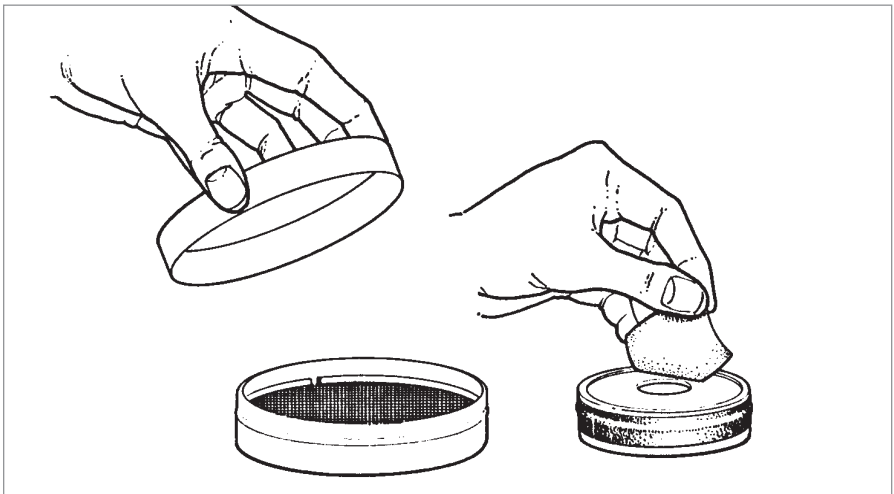

Figure 4: Two types of charcoal detectors
- **Charcoal Detectors** – These devices consist of a container filled with charcoal and covered with a screen and filter (*see figure 4*). They are exposed to the air in your home for a specified time period (usually 2 to 7 days), sealed and then sent to a laboratory for analysis.